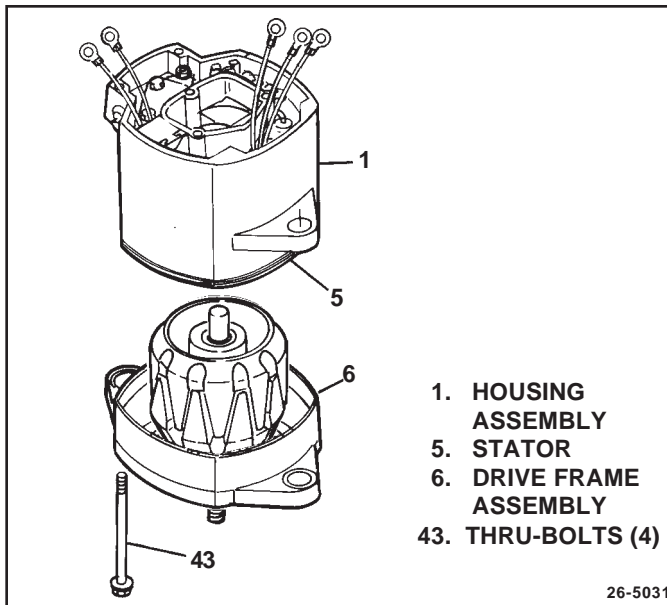

Figure 23. Separating Housings
if used. Remove the 4 thru bolts (43). Carefully separate the drive end housing from the stator and rectifier end housing, taking care not to damage stator windings. (See Fig. 23)
13. To remove stator from rectifier end housing, be sure all 3 stator leads are disconnected from diode junction studs in electronics compartment. Pry stator (5) and